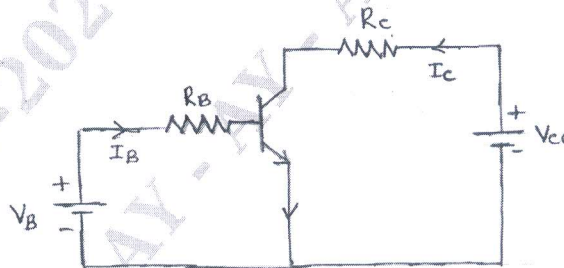

Fig. Q3 (b)
- The bipolar transistor shown in Fig. Q3 (b) is specified to have  $\beta$  in the range of 8 to 40. The load resistance  $R_C = 10 \Omega$ . The DC supply voltage is  $V_{CC} = 200 V$  and the input voltage to the base circuits is  $V_B = 10 V$ . If  $V_{CE(sat)} = 1 V$ ,  $V_{BE(sat)} = 1.5 V$ . Calculate (i) The value of  $R_B$  that result in saturation with an ODF of 5 (ii) Forced beta  $B_f$  (iii) Power loss  $P_T$  of the BJT. (06 Marks)